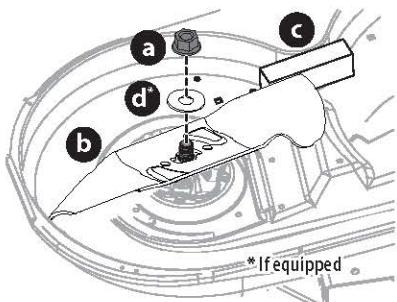

Figure 47
2. Use a 15/16 inch wrench to hold the hex nut on top of the spindle assembly when loosening the hex nut (a) and washer (d)\* securing the blade (b). A block of wood (c) may be placed between the deck housing and the cutting edge of the blade (b) to help in breaking loose the hex nut (a) and washer (d)\* securing the blade (Figure 47).
- When re-installing blades, be sure of the following (Figure 47 on page 32):
- Tighten hex nuts (a) to 70-90 ft-lbs (95-122 N-m) (Figure 47 on page 32).